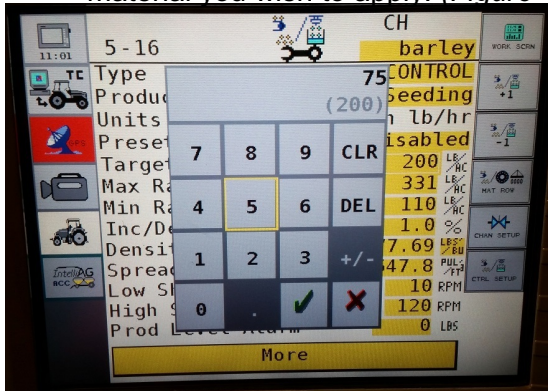

Figure 14
Step 5. Set **Target Rate**. Enter the amount of material you wish to apply. (Figure 14)